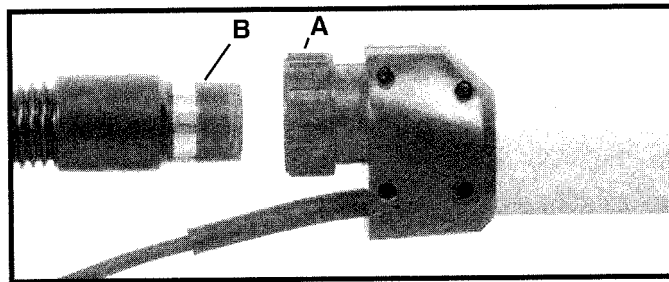

Fig. 2
2. Connect the vacuum hose to the Drywall Sander. Open the Drywall Sander's hose connector by turning the large nut (A) Fig. 2 counterclockwise a few turns. Push the vacuum hose swivel connector (B) Fig. 2 into the Drywall Sander connector and seat firmly. Turn the large nut clockwise to tighten the connector.